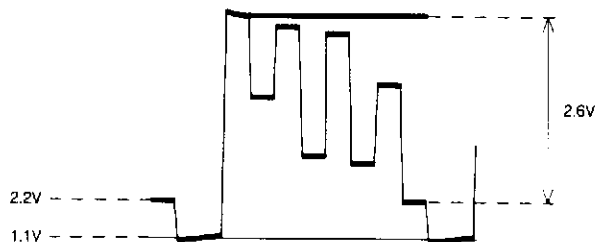

Fig. 2
- d. Set the brightness control so that the level of the black bar in the video signal is situated at 2,2V (see Fig. 2).